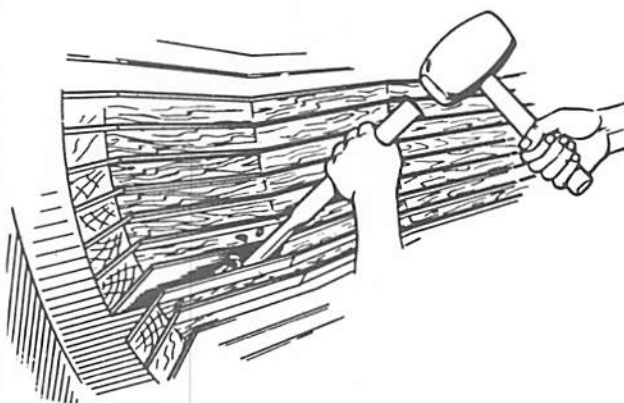

Fig. 1 Chipping Out One Wood to Loosen Filling
2. Drive filling back from small end until loose, or chip out a wood entire length of filling. Then drive filling back. Fig. 1.